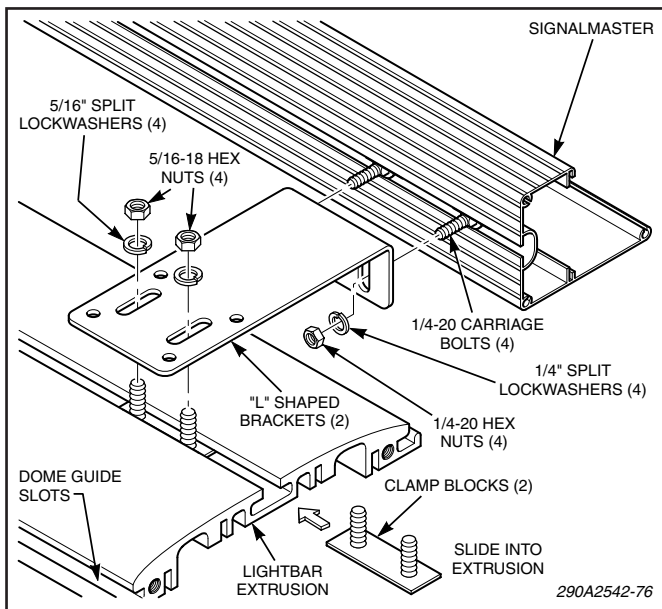

Figure 2.
The orientation of the L-shaped brackets must be as shown in Figure 2.
See Figure 2 and proceed as follows:
d. Align the new clamp blocks with the slots in the previously installed L-shaped brackets on the SignalMaster. Assemble the brackets to the new clamp blocks using the four 5/16-18 hex nuts and split lockwashers as shown in figure 2. Do not tighten the nuts at this time.